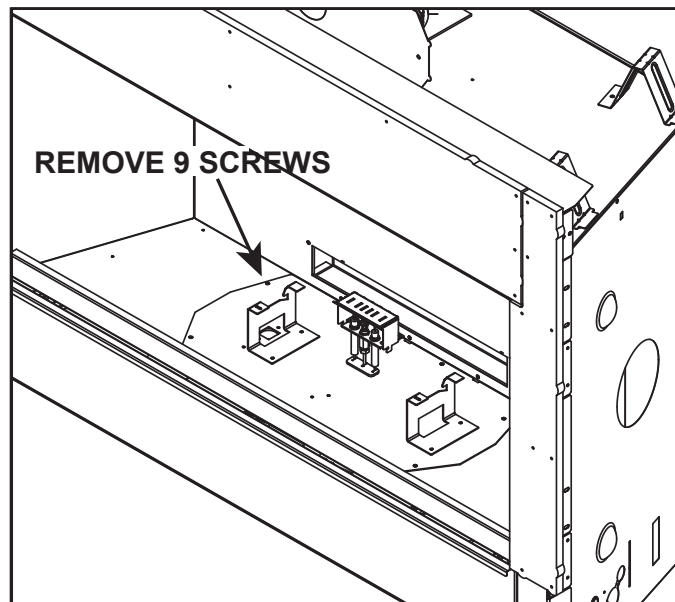

Figure 9.3 Remove Valve Plate
4. Remove the nine screws around the perimeter of the valve plate that secure valve plate to the appliance. See Figure 9.3.